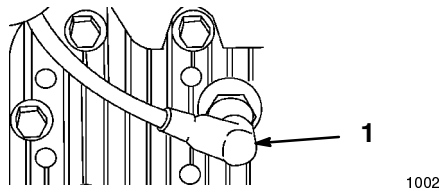

Figure 20
1. Disconnect the wire from the spark plug (Fig. 20).
2. Disconnect the wire from the spark plug (Fig. 20).